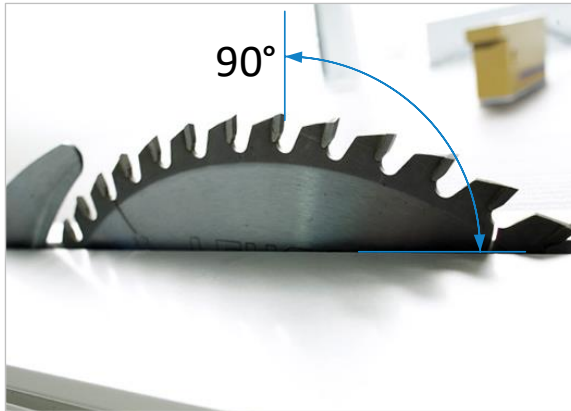

Figure 53: Prepare saw blade position
First turn off the main switch on the control cabinet and lock it with a padlock. Turn the stationary saw blade by hand so that one saw tooth is exactly in the centre of the axis and its cutting surface is at a 90° angle to the table top of the machine (see ⇒ Figure 53 on the next page).
- Turn the stationary saw blade by hand so that one saw tooth is exactly at the top in the centre of the axis and its cutting surface is at a 90° angle to the table top of the machine (⇨ Figure 53).